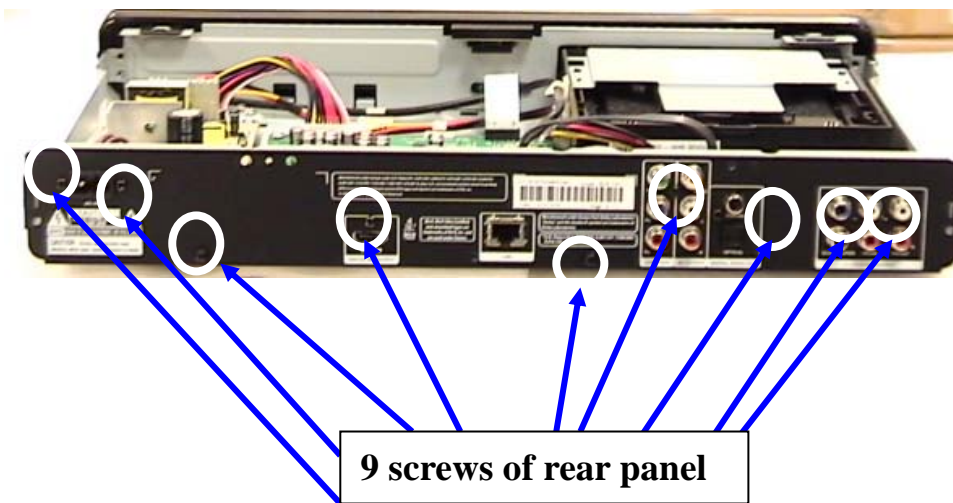

Figure 4-3-1 Rear panel of BDP 7300
- 2) For BDP7300, Remove 9 screws of rear panel. (Figure 4-3-1)
- 3) For BDP5000, Remove 7 screws of rear panel. (Figure 4-3-1)
- 2-1) For BDP-7300 (See Figure 4-3-1)